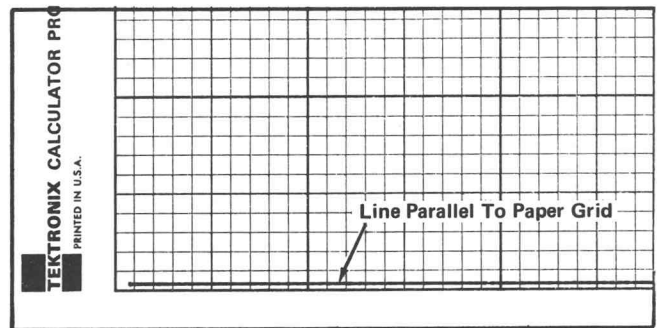

Fig. 3-10. Plotter line parallel to paper grid line.
4. The line drawn across the paper should parallel the grid lines on the paper (Fig. 3-10). If not, loosen the four platen screws and adjust the platen position accordingly. Then repeat steps 2 and 3 to ensure platen orthogonality.